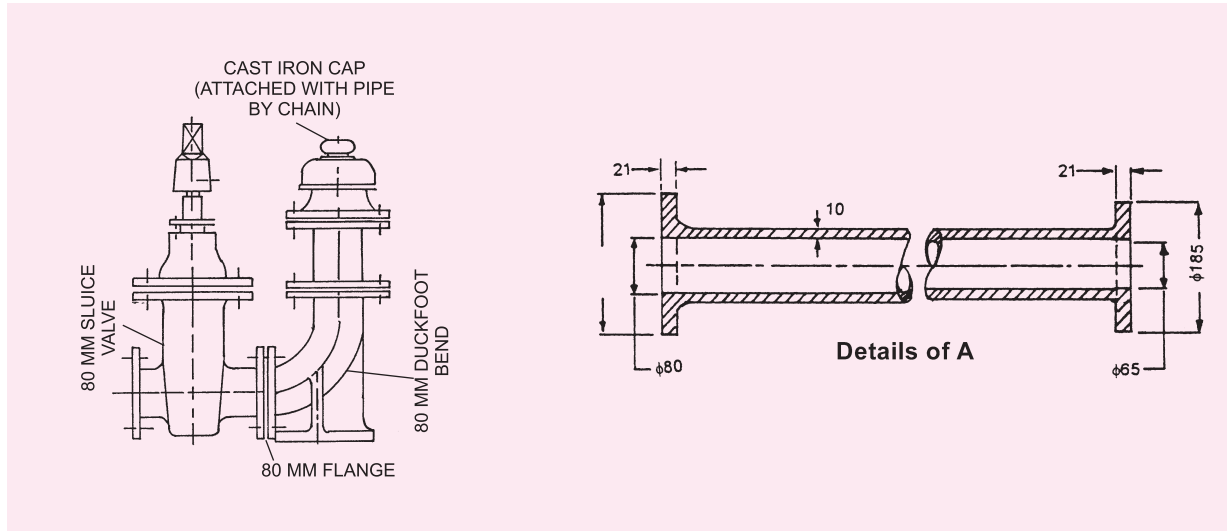

Fig. 1A
Underground Sluice Valve type Fire Hydrant are of two types as per figure 1A and 1B and consists of the following :
**1. As per figure 1A**